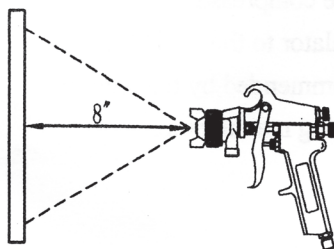

Figure 6—Distance from wall
- Maintain a distance of about 8" from the work as shown in Figure 6.